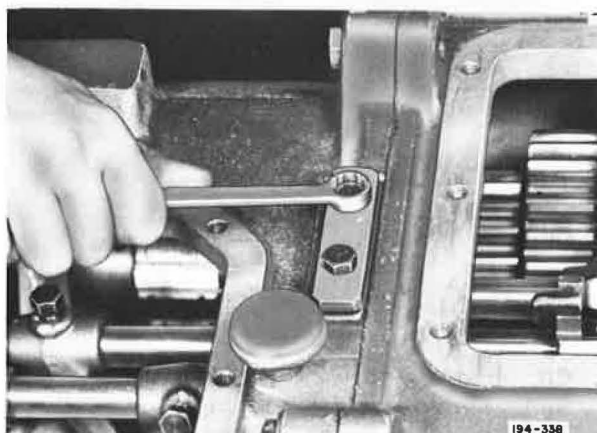

Figure 5-993. Installing Cover
27. Install poppet ball cover with capscrews, and tighten to recommended torque. See Figure 5-993. Refer to Torque and Tolerance Table, Item 4.